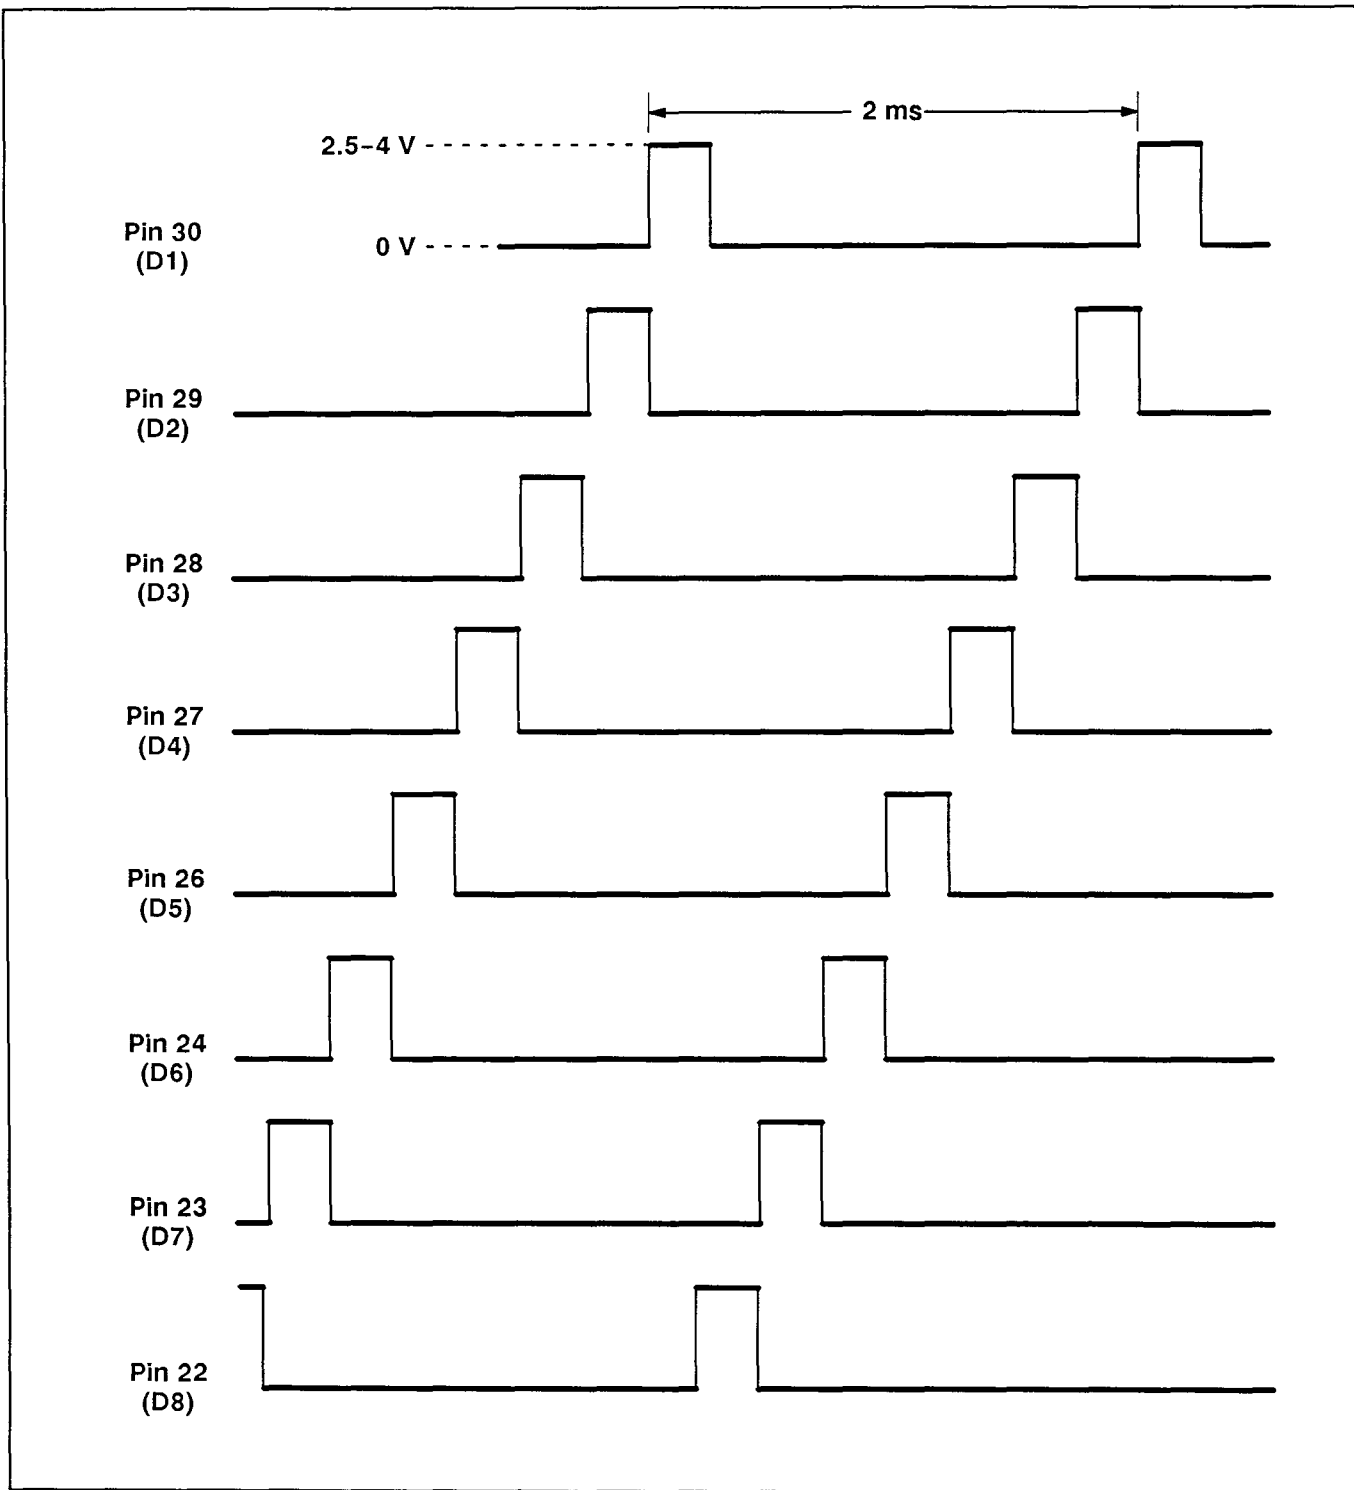

Figure 6-1. Digit strobe waveforms from U16.
DIGIT STROBES AND TIME BASE. Set the unit to any operating mode and check U16 pins 22–24 and 26–30 for all of the digit strobe waveforms shown in Figure 6-1 (D1 through D8). If all of these waveforms are normal, go on to "Display Test." If the waveforms are not as shown in Figure 6-1, check the output of the time base oscillator at U16 pin 38 for a waveform of 10 MHz frequency and peaks of 0 and 2.4 volts. If the waveform at pin 38 is okay, check U16 and display digits; if no output is obtained, check oscillator components, U16, and +5V (VB) power supply (D113, D114, C124, and Q10).
See Figure 6-1, Digit Strobe Waveforms from U16, for the waveforms listed in this table.